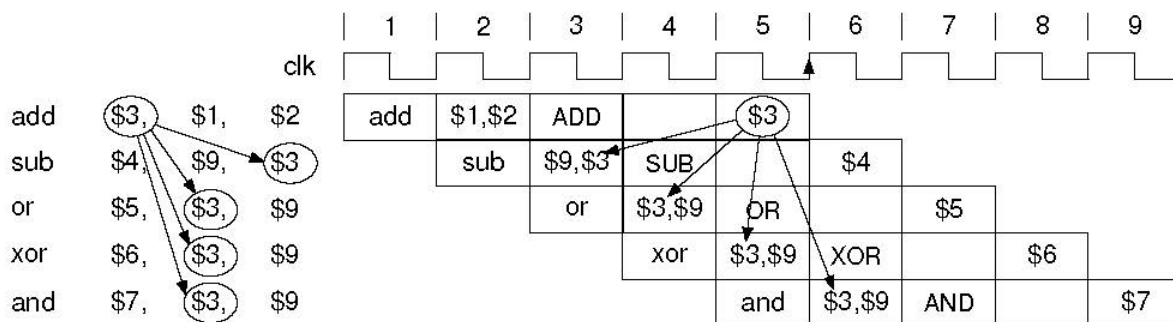

Figure 3 Data hazard examples
In order to focus our attention on the register file on the WB stage where the execution result of an instruction content can be read correctly in the ID stage after it is written. The code example shown in Figure 3. You need to add the required forwarding if needed.
16. Write a Verilog code that implement the instructions using the design shown in **Figure 3**. Write a Verilog test bench to verify your code: (You have to show qa and qb signals that output from the Regfile block in your simulation outputs)